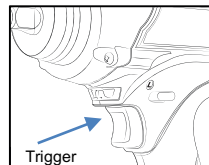

Fig. 5
3. To start the tool, simply press the trigger . Tool speed is increased by increasing pressure on the trigger . Release the trigger to stop . (Fig . 5)